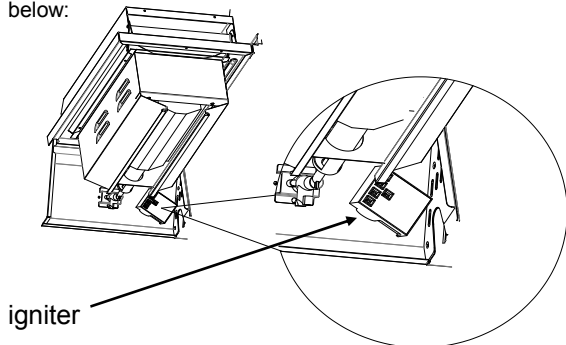

Fig.1-1
- a). Loosen but do not remove 2 screws that are located on the right side panel of the grill. See Fig.1-1.a1.
- b) Remove the bottom screw that is located on the right side of control panel. See Fig.1-1.a2.